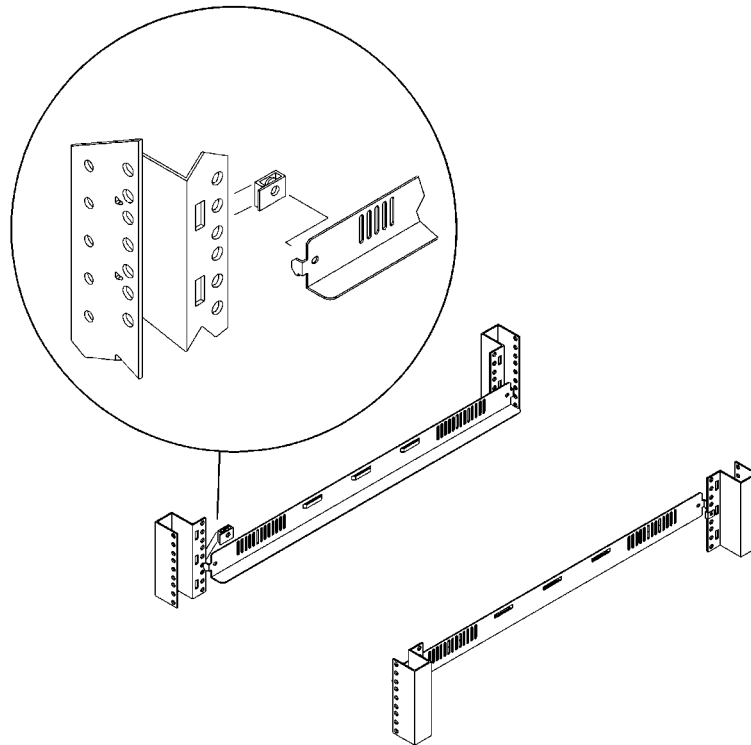

Figure 6. Installing rails for the FC-AL hub into the cabinet
- d. Insert one end of the left rail in the adjoining slot, so the hole in the rail lines up with the holes in the nut and column (see figure 6).